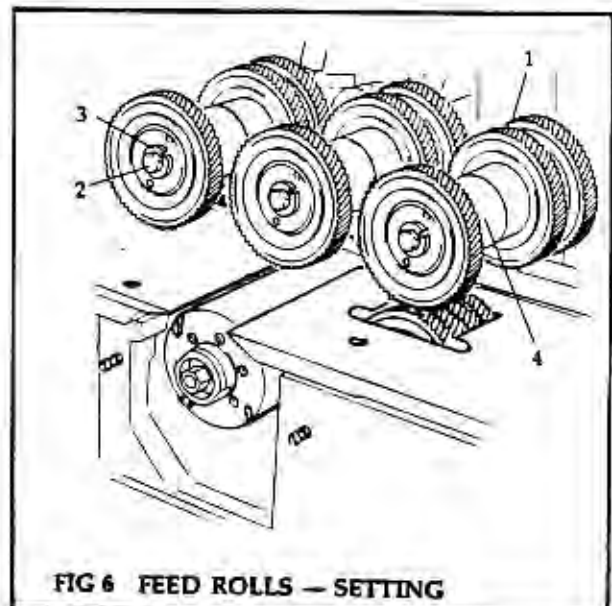
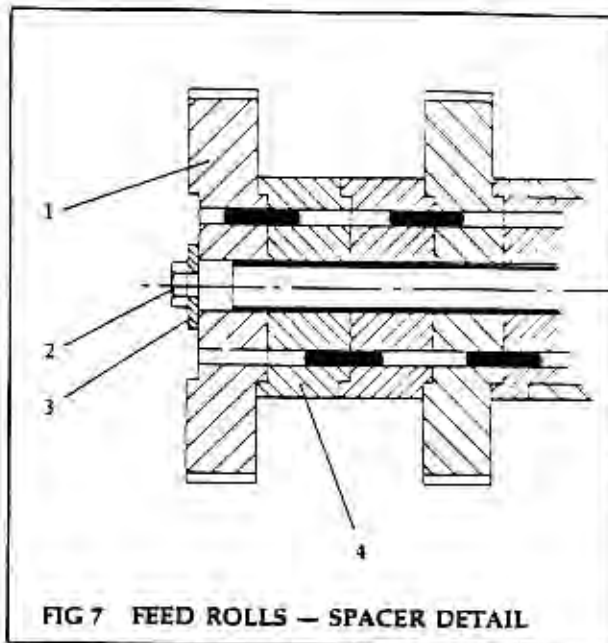

FIG 6 FEED ROLLS - SETTING
FIG 7 FEED ROLLS — SPACER DETAIL
Set feed rolls (Fig 6, Fig 7)
NOTE: To achieve maximum traction on wide timber, it may be advisable to space rolls apart (Fig 7), rather than having a solid bank of feed rolls.
- a. Slacken centre screw (2), using a 19mm hexagon spanner.
- b. Remove 'C' washer (3), add or remove rolls, or spacers (4), to suit width of stock. (Fig 7). Ensure that each roll drive engages with its mating part.
- c. Refit 'C' washer (3) and retighten centre screw (2).
- (2) Set feed roll height 3mm lower than thinnest workpiece. Set outfeed rolls 1mm lower.